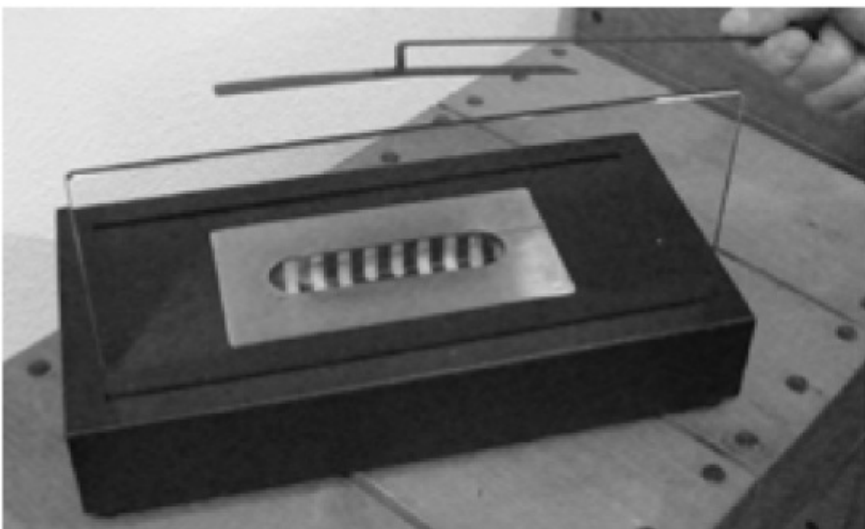

Fig. 5
- Step 1: hold the extinguish tool above the burner. (Fig. 5)